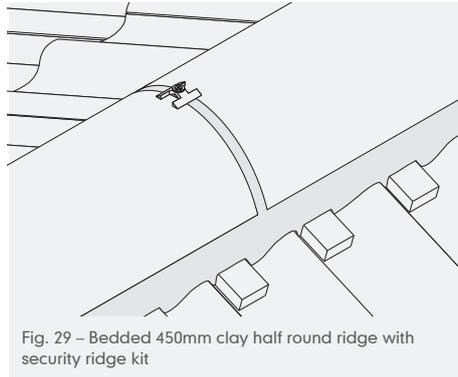

Fig. 29 – Bedded 450mm clay half round ridge with security ridge kit
- 2 Mortar bedded ridges should also be mechanically fixed using Marley mortar bedded security ridge fixing kits and 100mm x 4.8mm screw packs for deep ridges (Fig. 29).